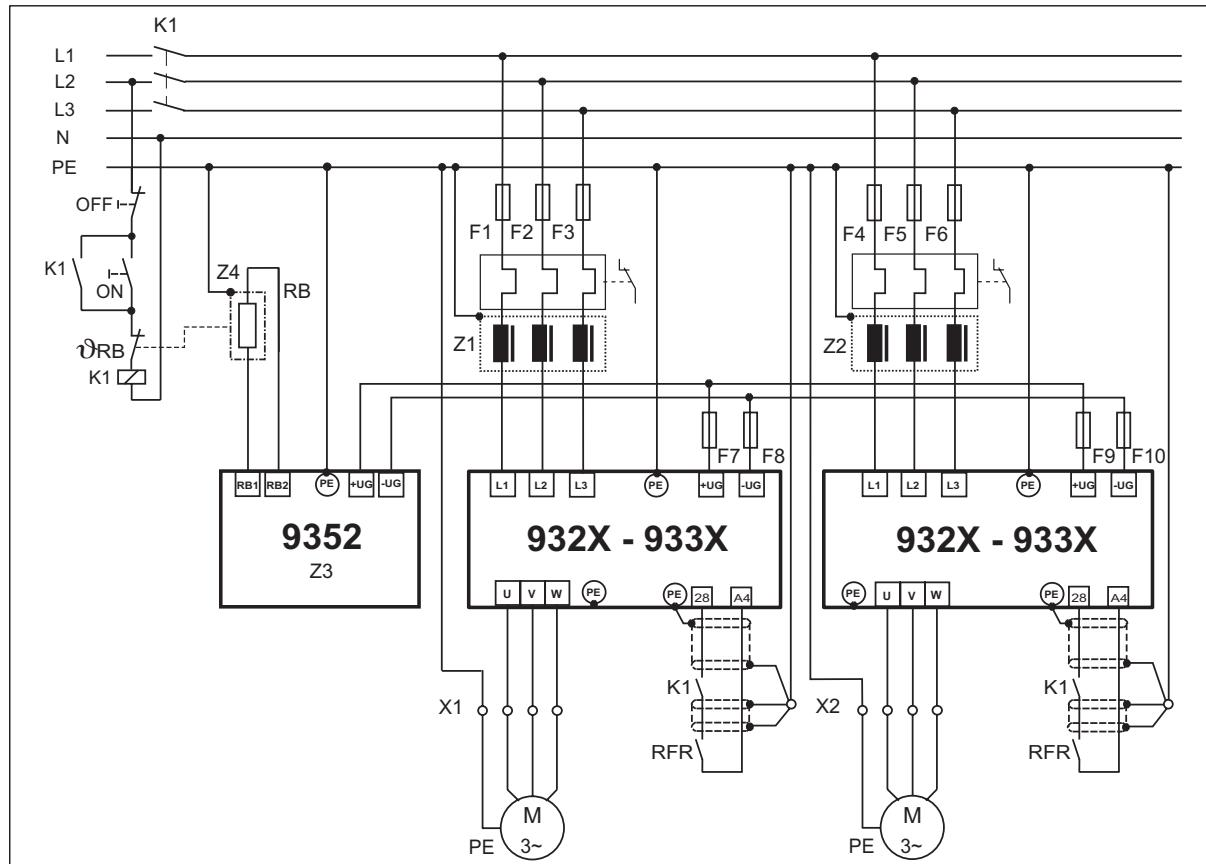

Abb. 4-9
- Abb. 4-9, "Decentralized supply for DC-bus connection of several drives". (§ 4-18)